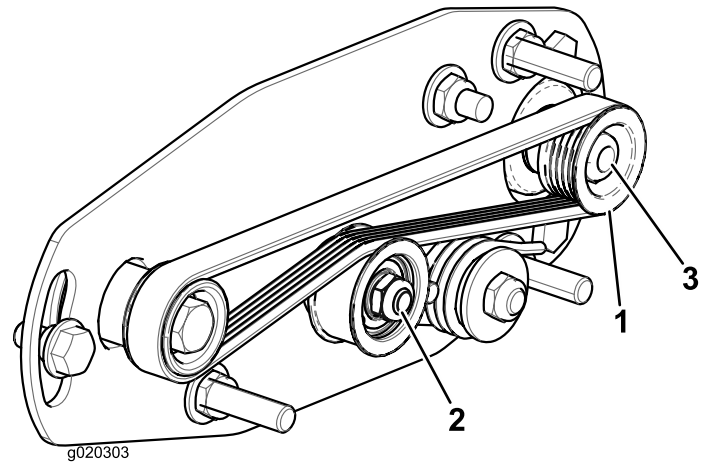
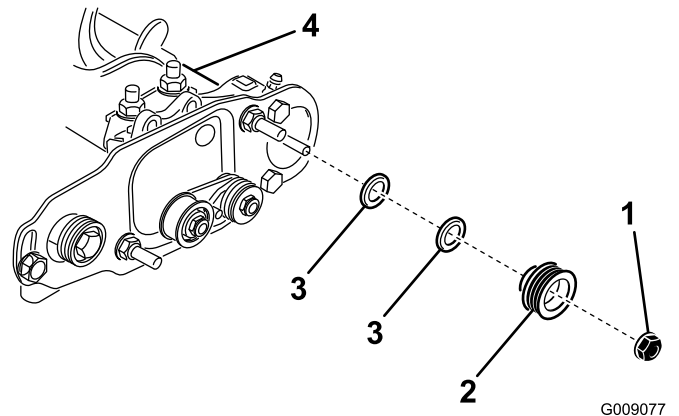

Figure 21
Figure 22
1. The driven pulley (at the roller-brush shaft) can move in or out (Figure 21).
2. While rotating the reel, which rotates the drive pulley, pry the belt off the drive pulley (Figure 21)
3. Remove the locknut securing the driven pulley to the brush shaft (Figure 21 or Figure 22).
4. Remove the driven pulley from the shaft (Figure 22).
5. If the pulley needs to move out, add a 0.8 mm (0.032 inch) thick washer (Figure 22).